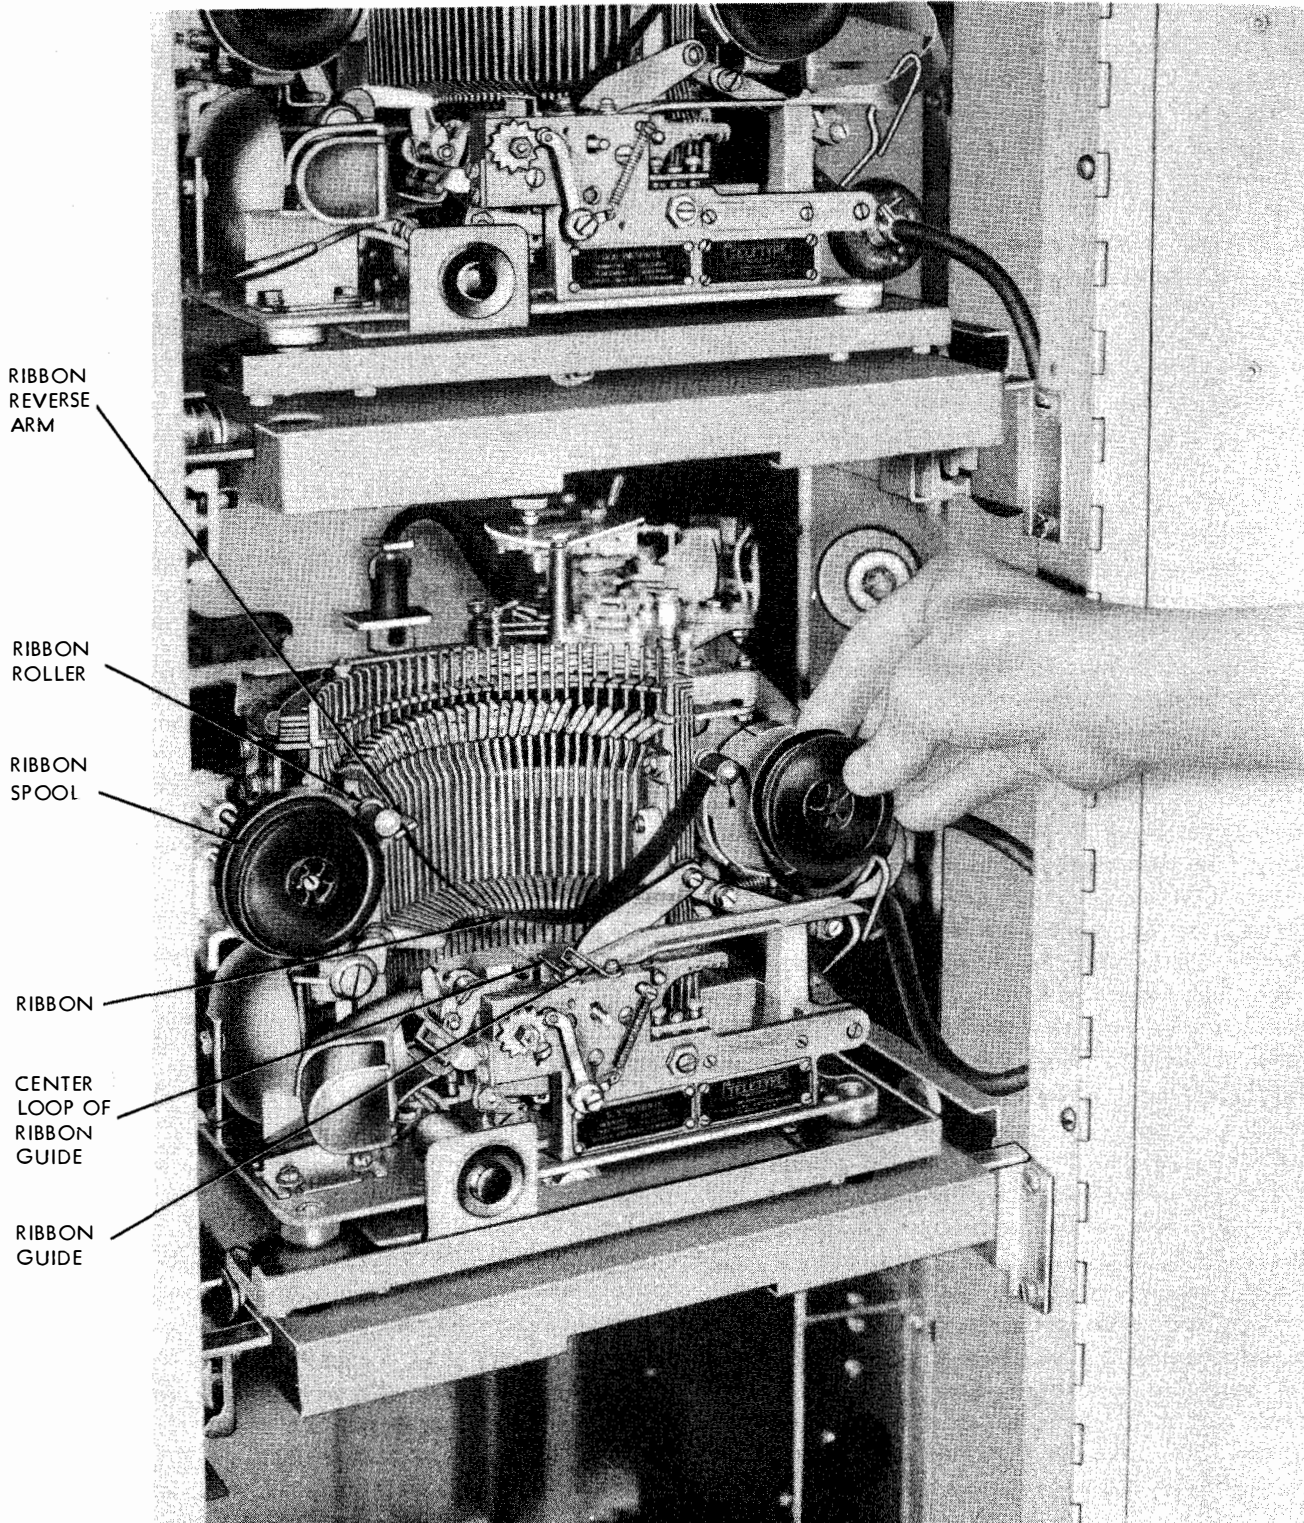

Figure 4-5. *Installing Reperforator Ribbons*
(1) INSTALLING REPERFORATOR RIBBONS.—The reperforator ribbons should be installed before the machine is operated. To install the ribbon (see figure 4-5), remove both ribbon spools and the worn ribbon from the reperforator. Unwind the ribbon from one of the spools and attach one end of the new ribbon to this spool. Replace both spools on the ribbon spool shafts with the ribbon unwinding from the bottom of